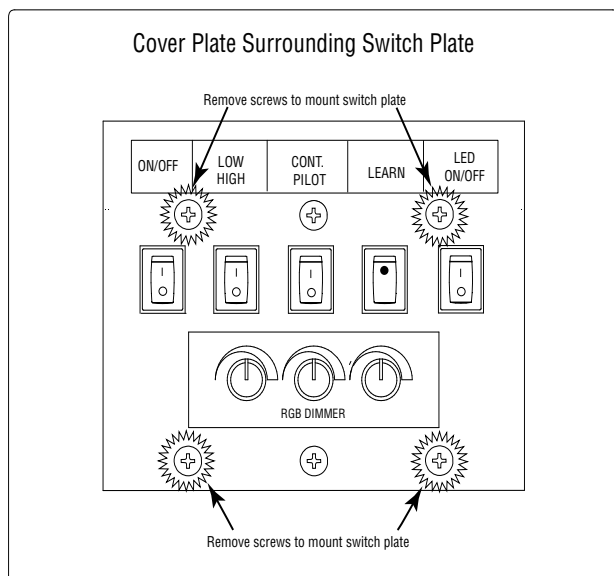
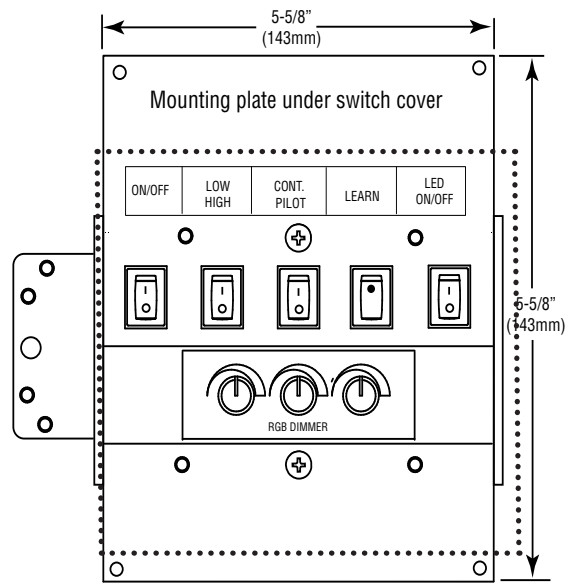

Fig. 24 RGB control box with 8 3/4" x 8 3/4" cover plate.
Fig. 25 RGB control box mounting plate
Step 11: Remove the RGB control box from the components parts carton. Find a suitable location within a close proximity of the fireplace for convenience of operation and mount the control box upright and level as shown in Fig. 26, page 21. Use Figs 24 & 25 for dimensional reference. The fireplace is supplied with 10-feet of wiring for the RGB control box (switches and dimmer) installation. **Note:** If desired, you can purchase 10-feet wire extensions in the accessories section that will enable you to move the RGB control box up to 50-feet away from the fireplace. **CAUTION:** Ensure all switches are in the OFF position. **"I" indicates ignite/ON and "O" indicates OFF.** Learn button does not apply.
Step 12: Remove the four (4) outer screws from each corner inside the cover plate and lift off. See Fig. 24. This will expose the mounting plate. See Fig. 25. **CAUTION:** Do not remove the two center screws from the cover plate. This will release the entire switch box wiring from inside the junction box and make it difficult to reinstall.
Step 13: Find a desired location to mount the RGB control box. Cut a 6" wide x 5 1/2" tall hole into the cement board. See dotted line in Fig. 25. Mount the RGB control box. **Note:** The wires from the switches can be removed for easier installation, if needed. Ensure to match the wires with the labels for each switch when reattaching.